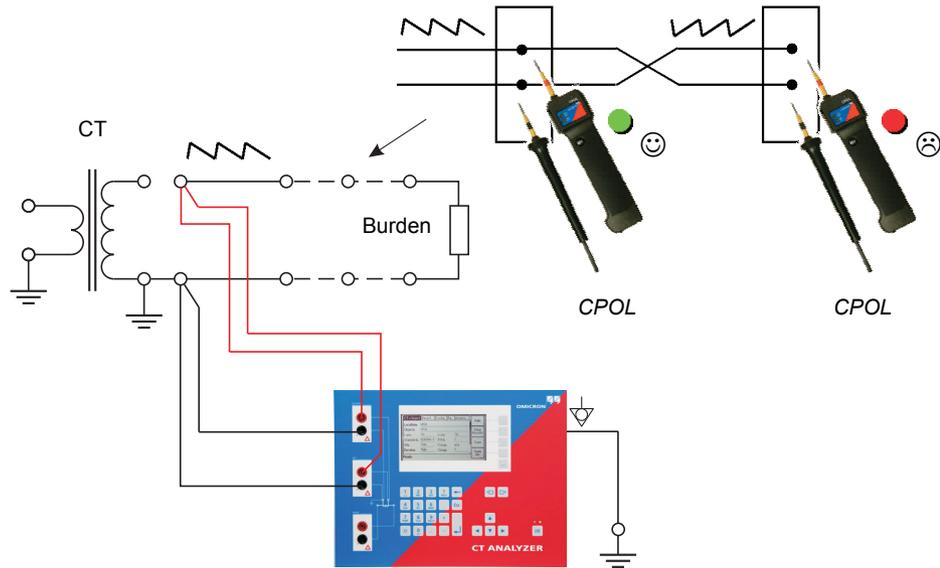

Figure 8-8 Wiring example for polarity check
1. Make sure that the wiring to be checked is disconnected from the ungrounded side of the CT (see Figure 8-8).
2. Connect the "Output" sockets and input "Sec" of the *CT Analyzer* to the wiring to be checked (see Figure 8-8).
7. Use the *CPOL* polarity checker to check the polarity of the wiring (see Figure 8-8 on page 147).